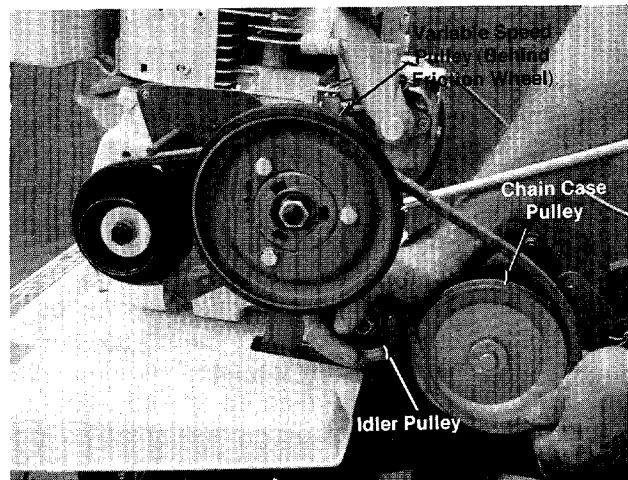

FIGURE 24.
2. Push forward on the idler and lift belt off the chain case pulley, idler pulley and variable speed pulley. See figure 24.